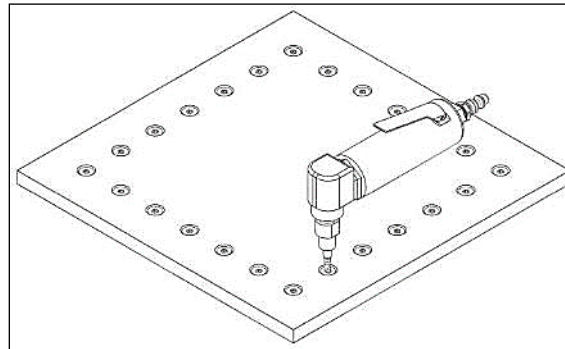

Figure 5. Tool and Fastener Head Alignment
- 3.2.2. Begin to remove the fastener filler by moving the pneumatic 90 degree grinder in circular motion above the fastener head at a slow, steady rate. See **Figure 5**.